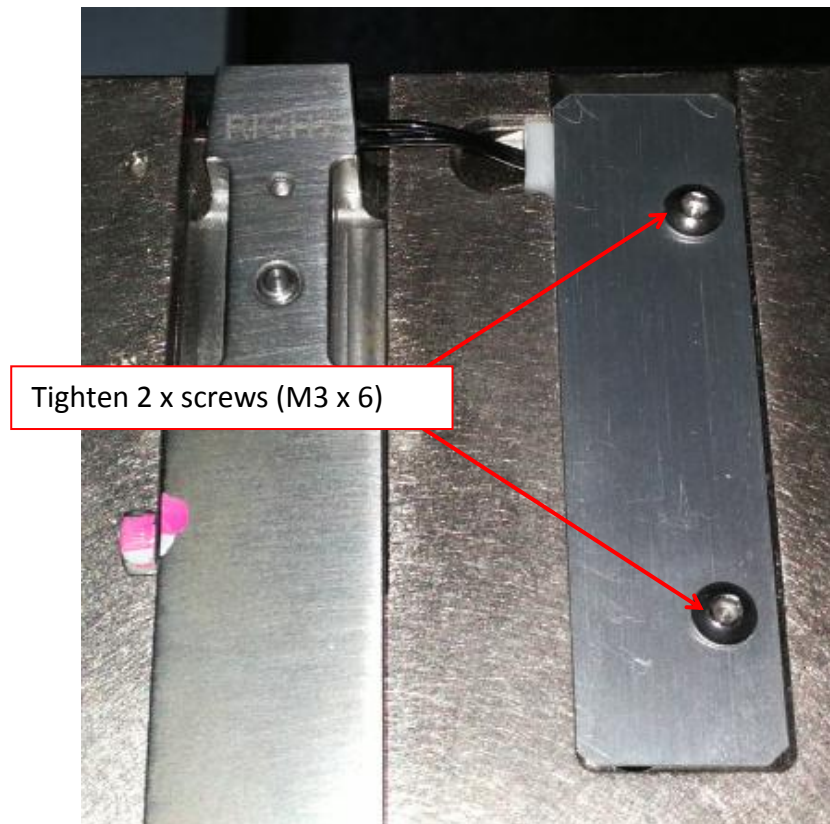

Figure 31 PIP Cover Assembly
4. Assemble PIP Cover & tighten 2 x Screws (M3 x 8) as shown in Figure 31